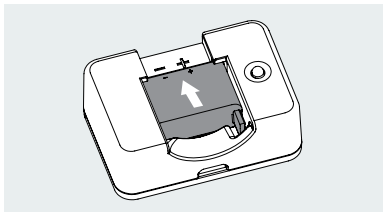

Figure 10
**1** The patch pump battery is inserted into the charger as shown in Figure 10. You should hear a click sound indicating that the battery is correctly inserted.